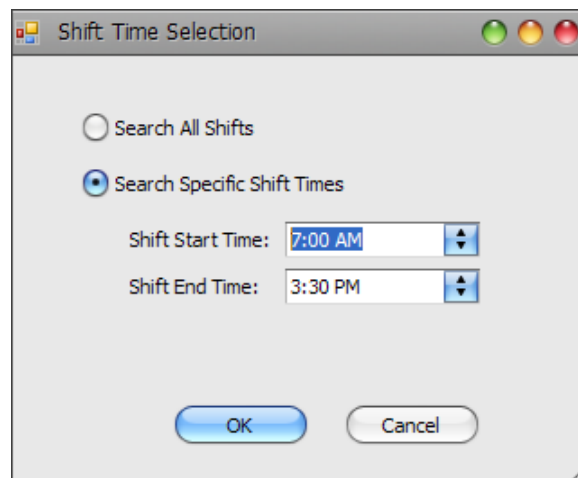

Figure 5-6: Shift Time Selection window
- The Shift Time Selection window opens (Figure 5-6).